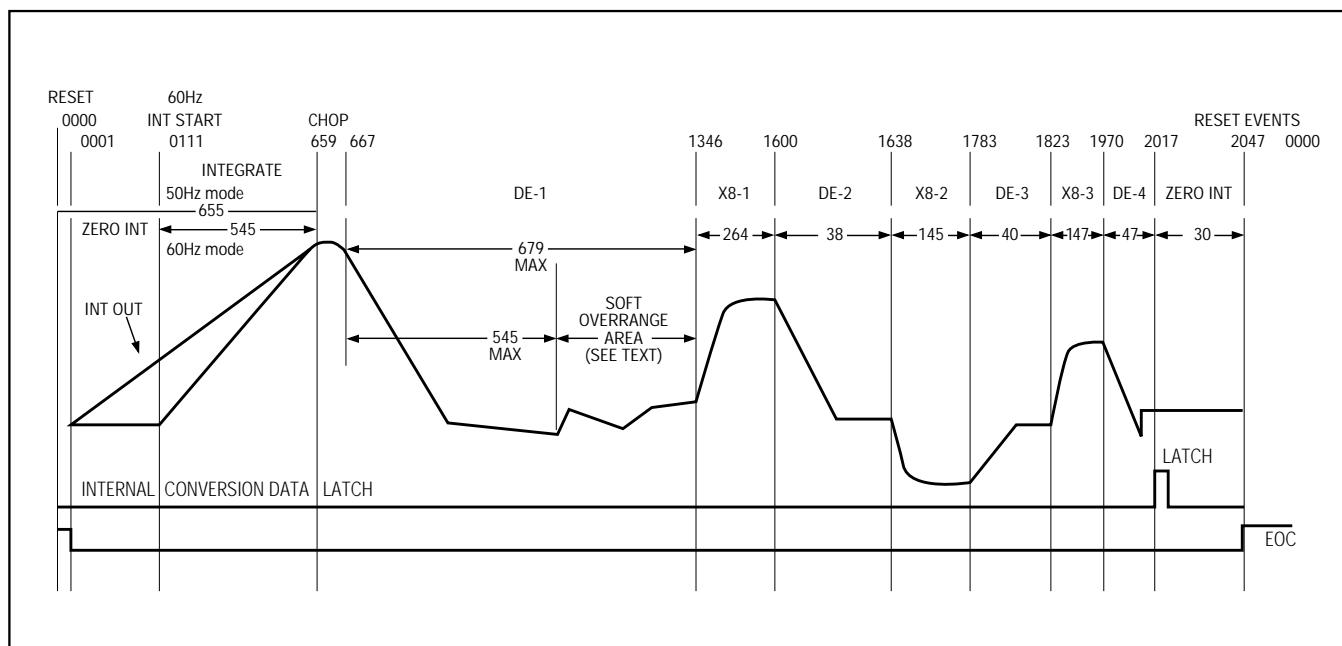

Figure 10. Conversion Timing (Negative Input Shown)
- 2) Poll either the EOC status register bit or the EOC line to determine conversion end and start time for the next conversion. EOC becomes 1 at conversion end at count 0000 of the conversion counter (Figure 10).
The MAX132 has two overrange levels (Figure 10 and Table 4). The first level is a soft overrange that is set by the user. Overrange is arbitrarily set at a value, preferably less than the 279,040 (including any zero offset) raw counts soft limit. A nonlinearity step of about 64 counts occurs at raw count 279,040 and again at 330,240 counts.
This process of measuring and accounting for the residue can be repeated for the successively smaller errors remaining after each deintegration. (Deintegration is simply an integration of VREF, with polarity chosen so the integrator output ramps toward zero.) The MAX132, for example, executes three cycles in which the residue is inverted, multiplied by eight, and deintegrated (Figure 10).
The zero-integrate phase zeros out the integrator to prepare for the next integration (Figure 10). This phase occurs at the beginning and end of each conversion. At power-up, or in the hold mode prior to a conversion, the MAX132 continues to zero integrate until a conversion starts. When a conversion starts in 60Hz mode, another 111 clocks of zero integrate are completed before the beginning of a conversion. In 50Hz mode, only one additional zero integrate is performed before the conversion starts. An additional 20 clocks of zero integrate occur at each conversion end.